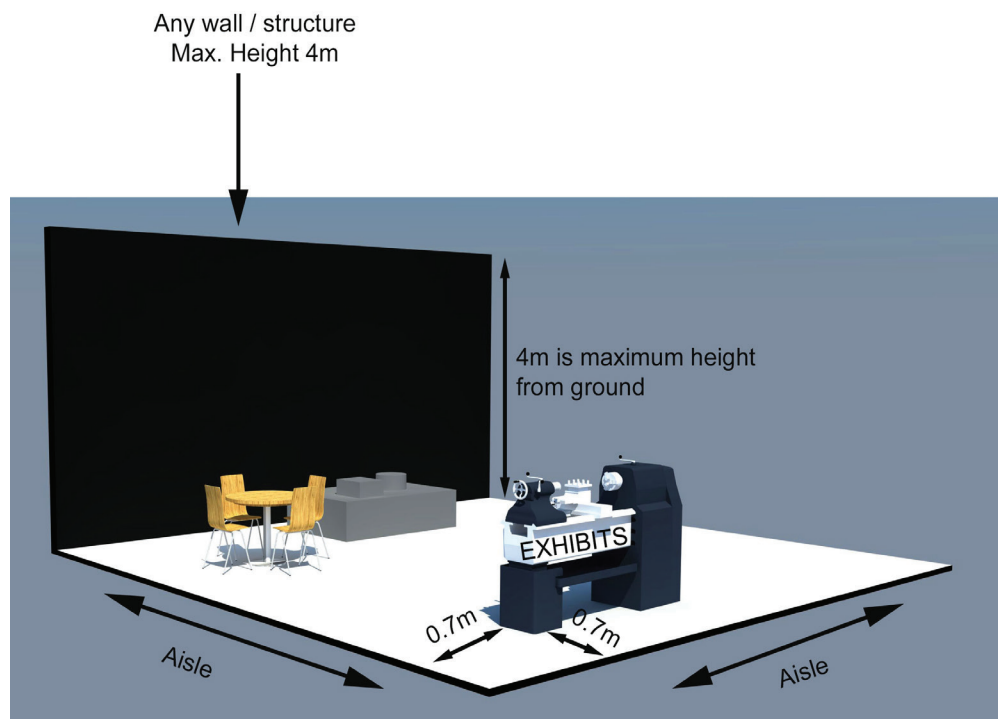

Figure 1
- No part of any exhibit/display should project out of the stand boundaries. Exhibits / machines / showcases / display podiums must be placed at least 0.7m away from the boundary of open sides of the stand. (see figure 1)